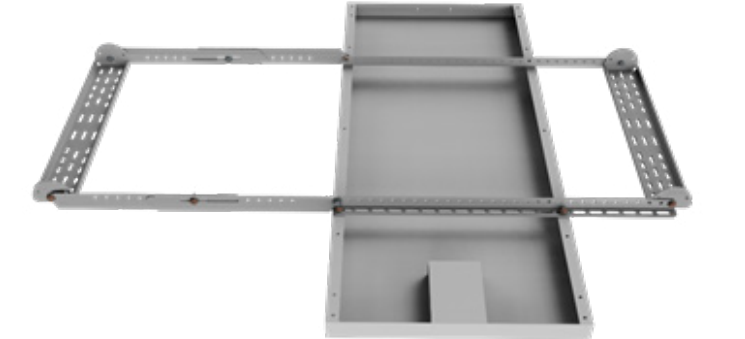

Figure 4
5. Attach the bottom extended mount bracket to the extended mount struts as shown in Figure 4.